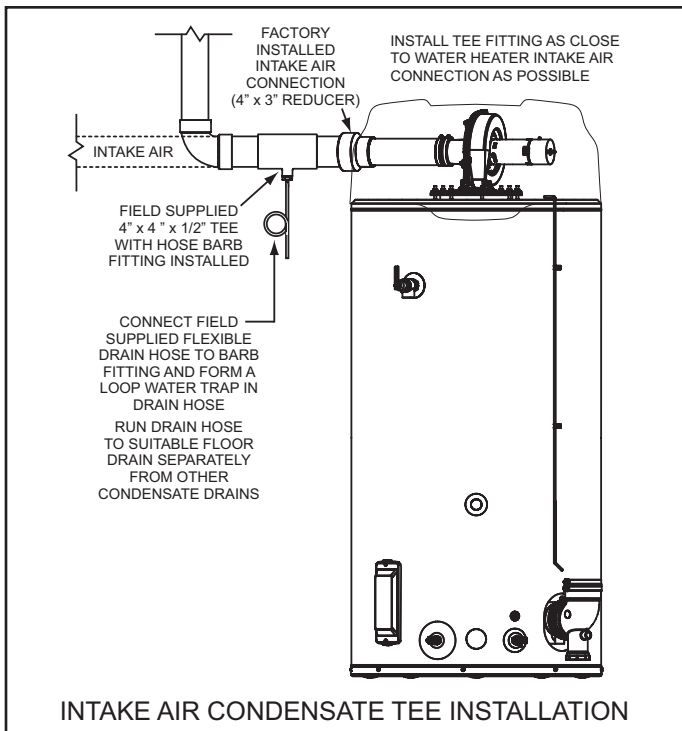

Figure 16
9. A field supplied condensate Tee fitting and drain hose should be installed in the intake air piping near the water heater in colder climates with heavy snow accumulations and in areas that regularly experience high humidity. The drain hose should be routed to an adequate floor drain separate from any other condensate drains. See Figure 16 on page 24.